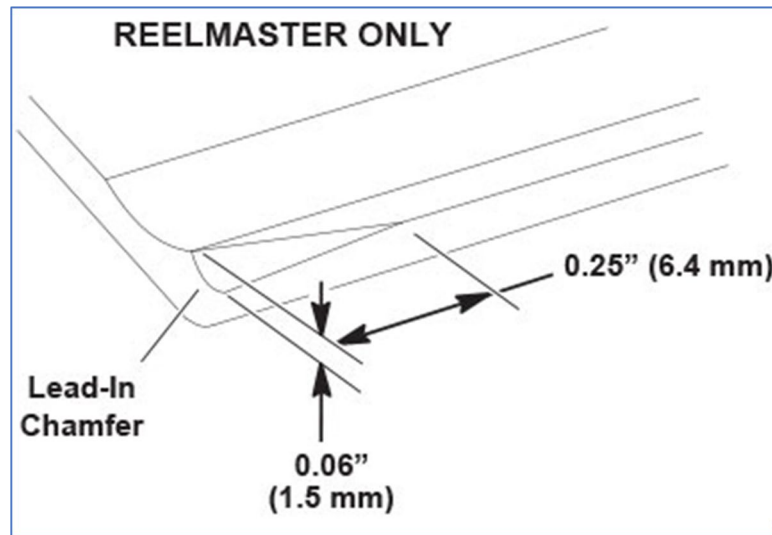

Figure 5
2. A lead-in chamfer is required to help prevent damage to bedknife and/or reel. Refer to the Operator's Manual and Figure 5 for more details.